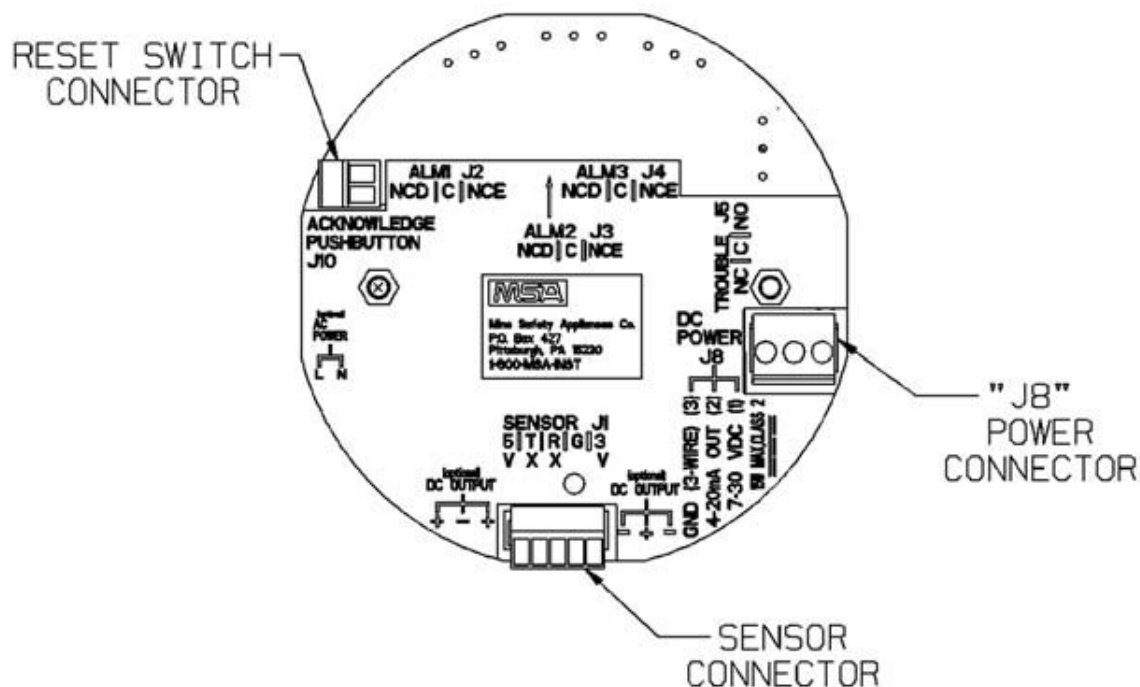

Fig. 16 Two-Wire Printed Circuit Board (no HART Protocol)
- (1) Connect 8-30 VDC power lead to J8-1 (see Fig. 16)
- (2) Connect J8-2 to the 4-20 mA output on the remote system.
- (3) Connect the sensor module to main pc board connector J-1.
- (4) Assemble lid on the enclosure.